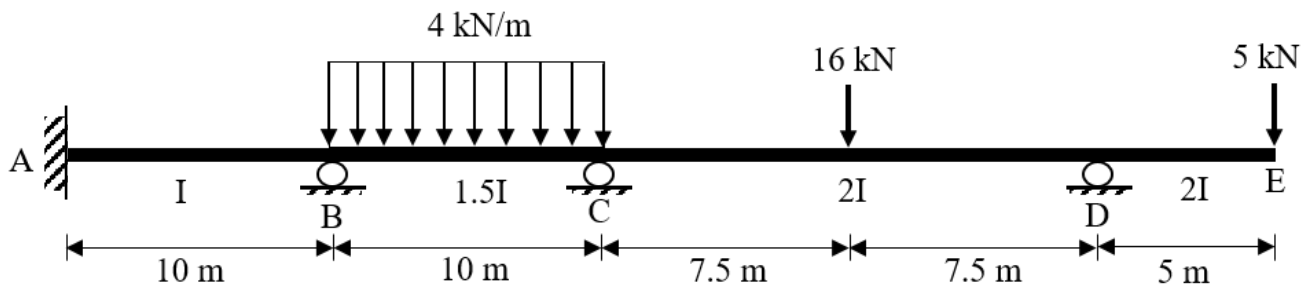

Figure 4 / Rajah 4
4. **Figure 4** shows a beam carrying a uniformly distributed load of 4 kN/m on span BC and a point load of 16 kN on span CD. Meanwhile, another 5 kN force acts at the end of cantilever DE. Support A is fixed, whereas supports B, C and D are roller. The flexural rigidity of members AB, BC and CDE are I , $1.5I$ and $2I$, respectively. E is constant for the beam.